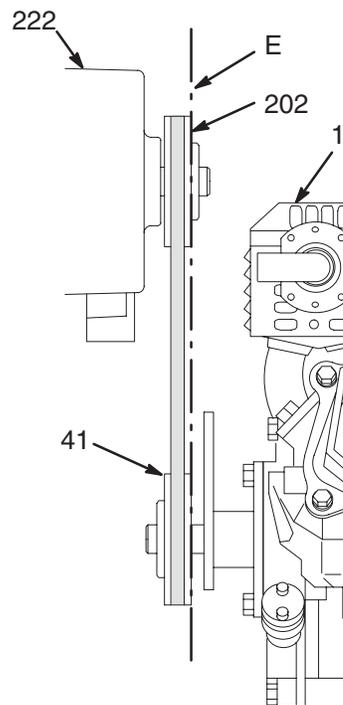

Fig. 17
- Mount the engine or motor (1) without the belt guard in place. Place a straight edge (E) along the surfaces of the clutch pulley (202) and engine pulley (41) as shown in Fig. 17 to be sure they are vertically aligned. Readjust the bushing screws (A) as needed to align the pulleys and recheck the alignment.